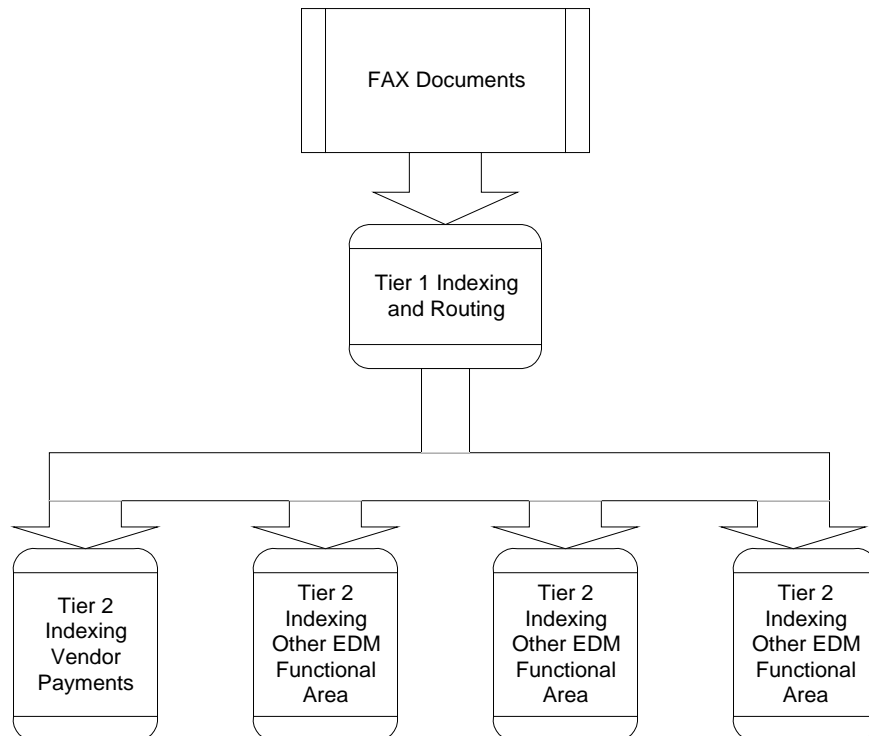

Figure 3.3 - FAX Input Document Process
- **Remaining Steps** - The remaining steps in Figure 3.3 are identical to the steps described for handling mail input. Upon entering the system, the FAX image is treated exactly the same as scanned document images.
Figure 3.3 illustrates the input FAX document process that will occur with EDM.